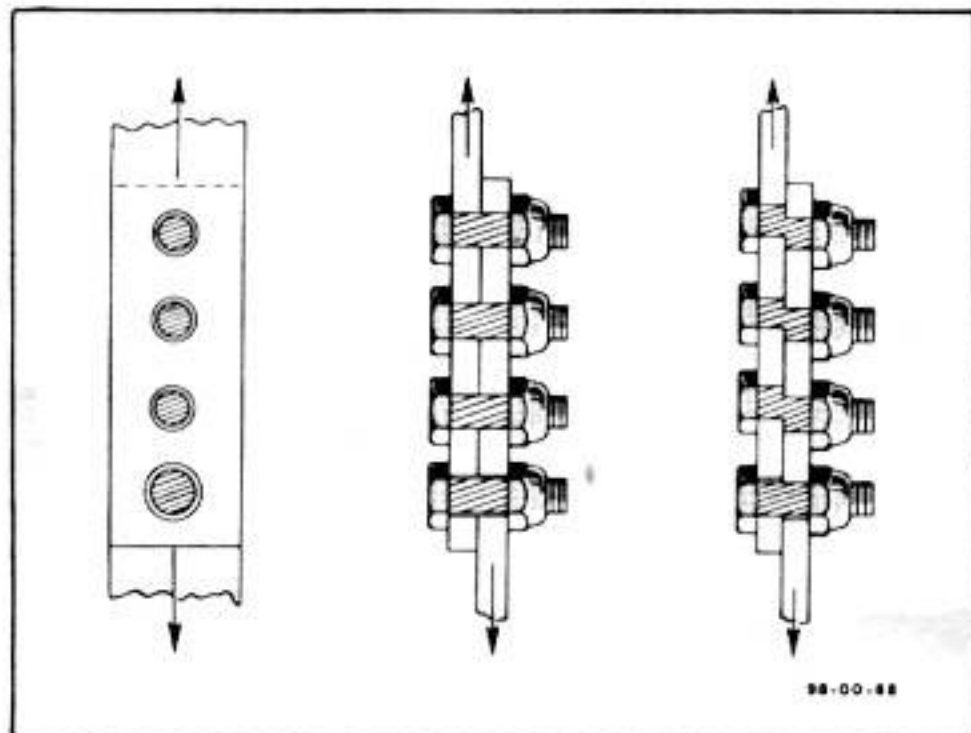

Figure 479—Bolted Joint With Oversize Hole
c. FITTING OF BOLTS AND SCREWS.—All bolt holes should be the smallest consistent with design, and all bolts must be suitably locked. It is advisable to drill the hole undersize and ream for a close fit. Bolt holes must not be oversized or elongated. A bolt in an oversized or an elongated hole takes none of the applied shear load until the metal it is holding in shear has slipped enough, and the remaining bolts sheared enough, to allow the bearing surface to come in contact with the bolt. (See figure 479.) The shearing action is a definite failure in these bolts and they are no longer capable of carrying their design loads. In some cases of oversized or elongated holes, it is permissible to drill or ream the hole until large enough to permit the insertion of the next size larger bolt. However, before resorting to this method, obtain permission from an authorized engineering officer. When in doubt, it is advisable to replace the fitting which contains the oversized hole with one in which the holes are the proper size. To make a bolt